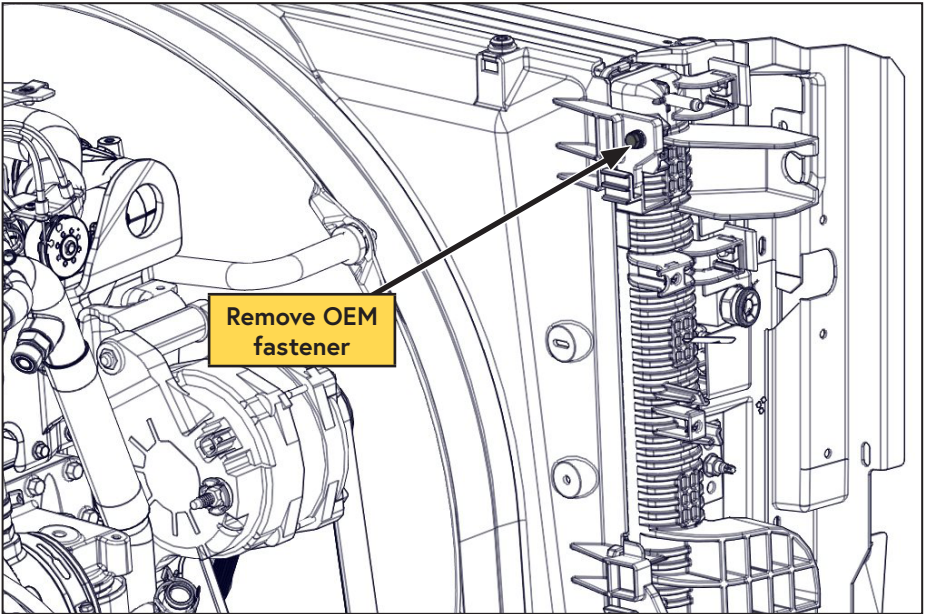

Figure 63 — Oil fill hose
- ☐ Remove and discard the OEM fastener at the top passenger side of the radiator (Figure 63).